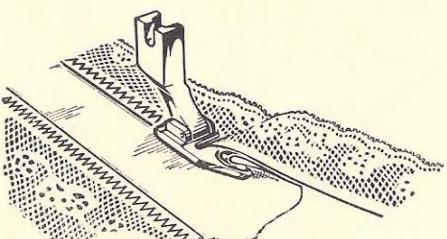

Fig. 37
c) HEMMING AND SEWING ON LACES (Fig. 37)